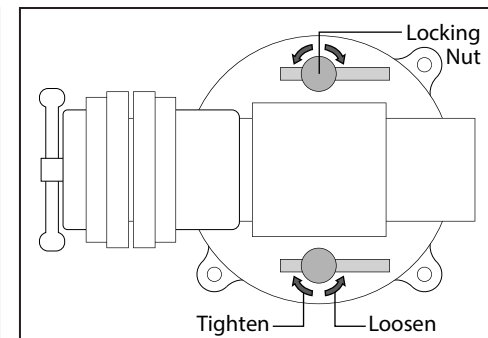

Fig. 4
1. Turn both locking nuts counterclockwise to loosen them (Fig. 4). (Loosening the locking nuts too much will cause them to detach from the bolts underneath. To reattach the nut to the bolt, turn the locking nut clockwise onto the bolt.)
2. Pivot the vise body to the desired angle (Fig. 4).
3. Turn both locking nuts clockwise until they are tightened (Fig. 4). Your vise is now secured in your desired position, and you may continue working on your project.